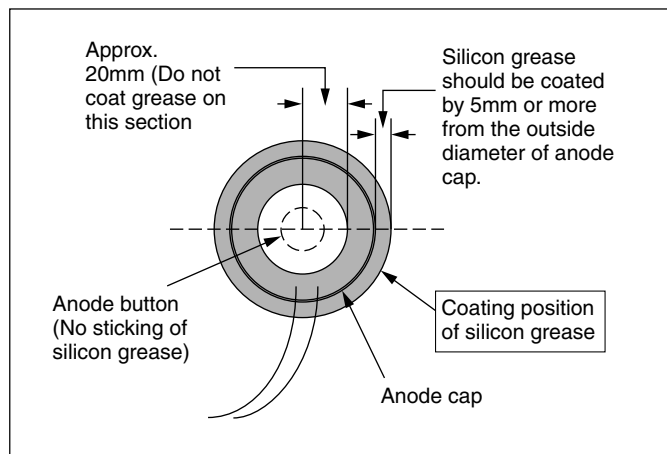

Fig. 7
- 2. Coat silicon grease on the section around the anode button. At this time, take care so that any silicon greases does not sticks to the anode button. (Fig. 7)